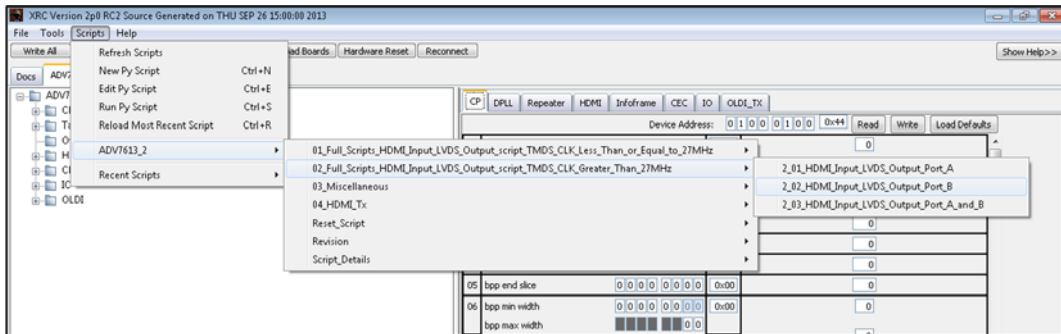

Figure 9. Selecting and Running a Script in XRC
5. When the boards load, select **Scripts** from the menu bar at the top of the screen and navigate to **02-03 HDMI Input_LVDS_Output Port A and B** script, as shown in Figure 9. The source video feed appears on the output display.